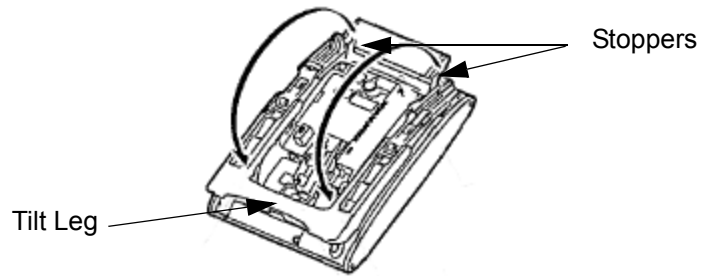

Figure 6-48 Separate Tilt Leg from Leg Support
3. Lower the tilt leg to the first position (refer to Figure 6-48 Separate Tilt Leg from Leg Support on page 6-53).